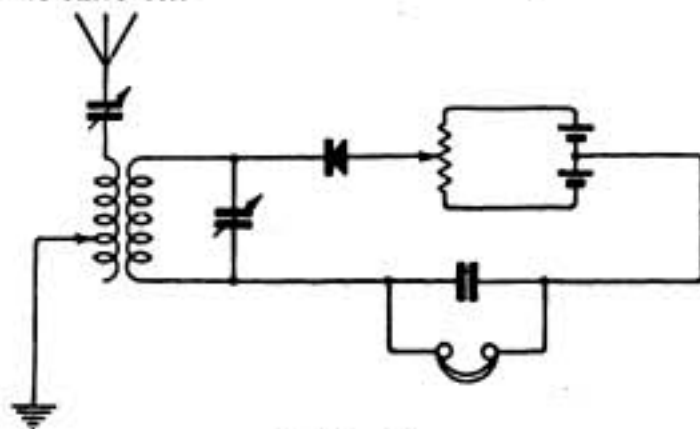

Fig. 10.
(1) See diagram (Fig. 10). (2) Quite satisfactory for London Broadcasting. If your aerial is a very good one, you may get Writtle very weakly. (3) By increasing the size of both coils. (4) Yes, all the parts except the crystal could be used for this purpose.